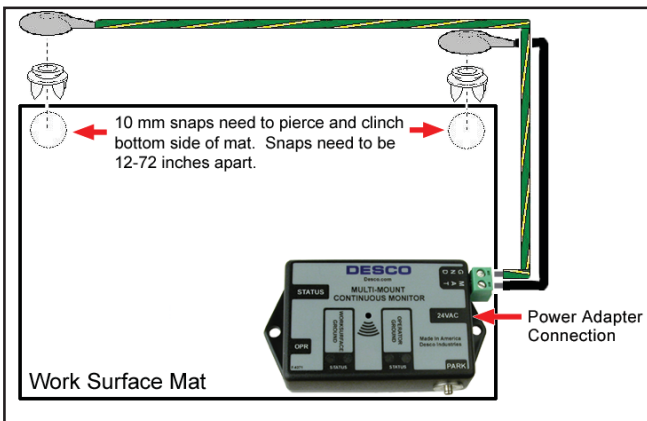

Figure 3. Installation of the Multi-Mount Continuous Monitor
- I. The Multi-Mount Continuous Monitor may be mounted to a convenient location using the included mounting screws or Velcro® set. See Figure 3 for installation set-up.
- The work surface resistance is measured between the two snaps installed to the mat worksurface (See Figure 3).